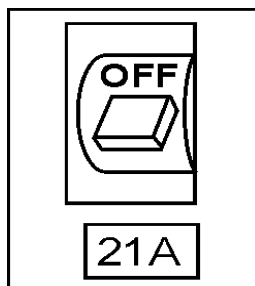

Figure 10. Main Circuit Breaker (OFF Position)
2. **NEVER** start the engine with the main circuit breaker in the "ON" position. Always place this circuit breakers (Figure 10) in the **OFF** position before starting.